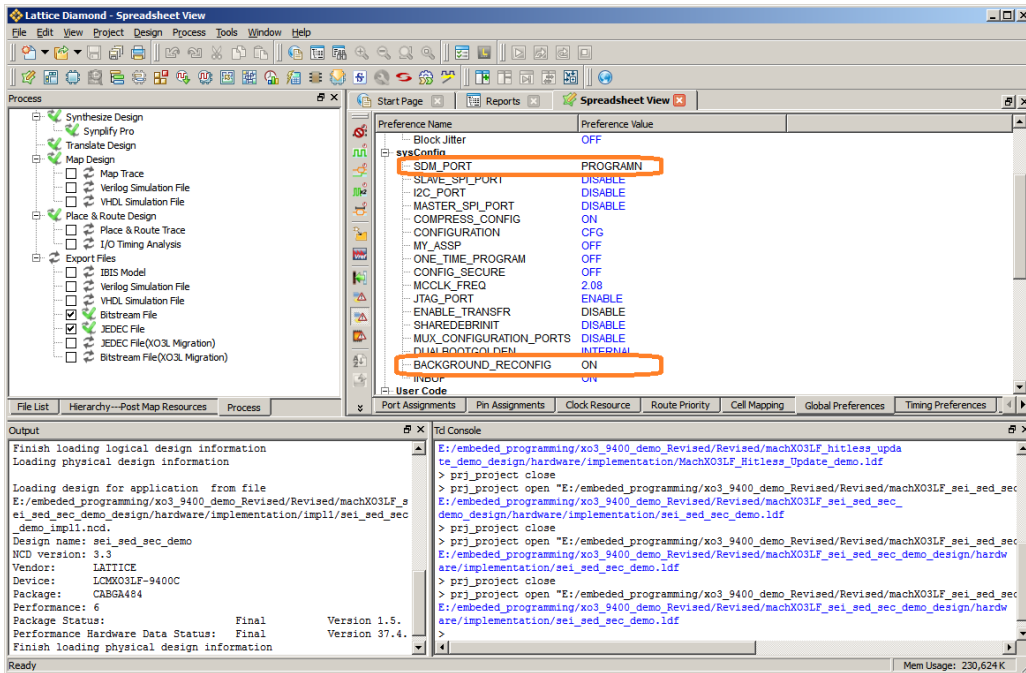

Figure 7.3. Setting Global Preferences
- When you see a green check mark on the **Synthesize Design** checkbox, click **Spreadsheet View**. In the Global Preferences tab, set **SDM_PORT** to **PROGRAMN** and **BACKGROUND_RECONFIG** to **ON** as shown in **Figure 7.3**.